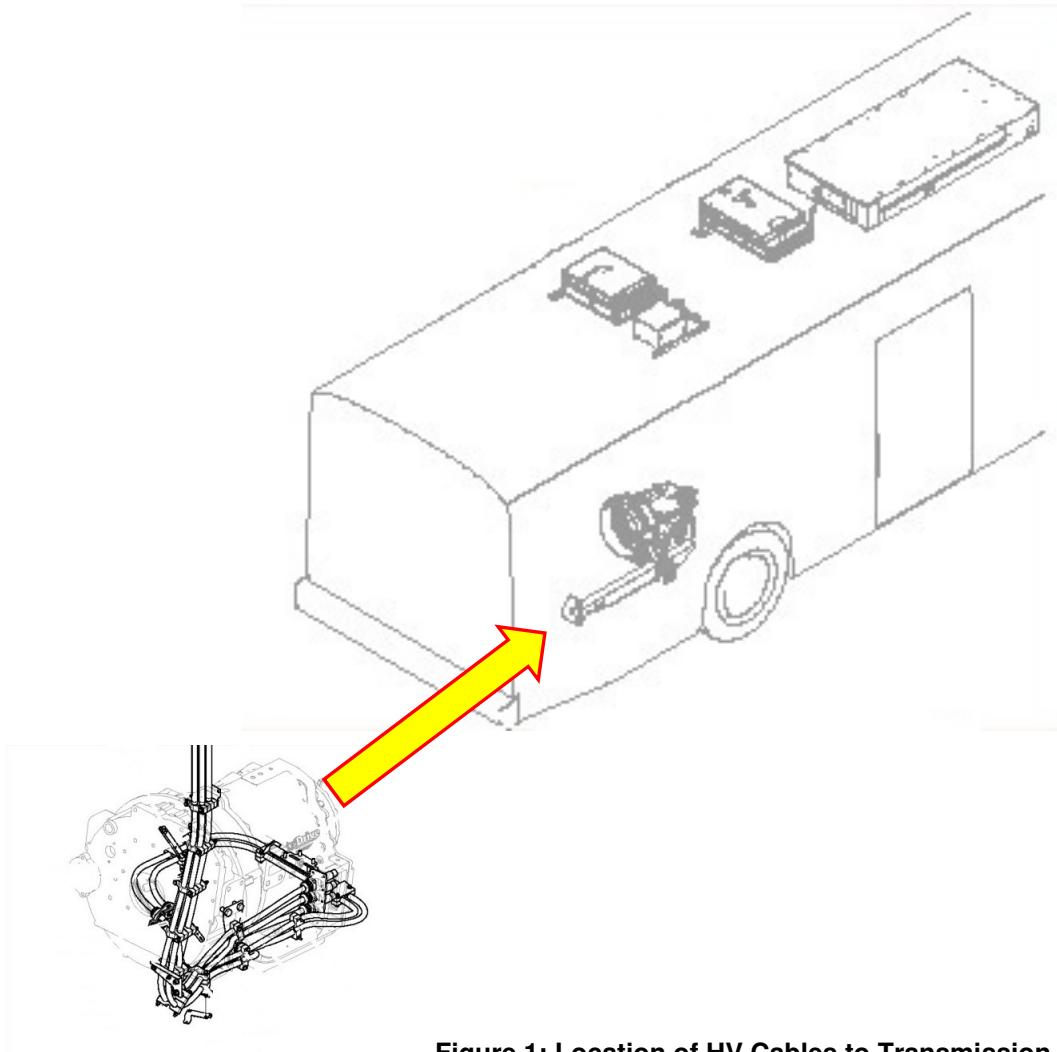

Figure 1: Location of HV Cables to Transmission.
2. Gain access to the HV cables that route in and around the transmission. Refer to Figure 1.